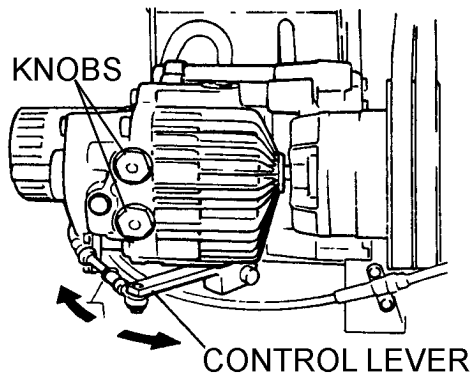

Figure 25. Disengaging Hydraulic Brake
1. If you need to move the roller by pushing it manually once engine is stopped, push in the upper and lower knobs of the transmission check valve. This will cause the hydraulic break to disengage and allow the roller to be moved without causing damage (Figure 25).